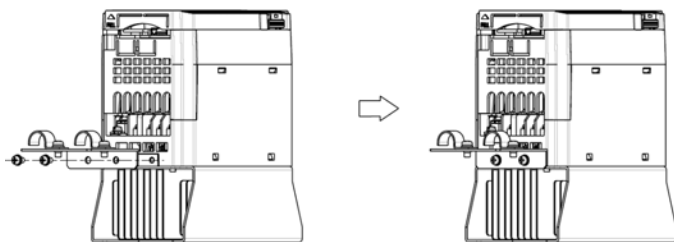

Figure 10.1 Attaching the EMC Grounding Flange
- 1) Mount the EMC grounding flange (that comes with the inverter) to the inverter with screws in order to ground the wire shield(s). (See Figure 10.1.)